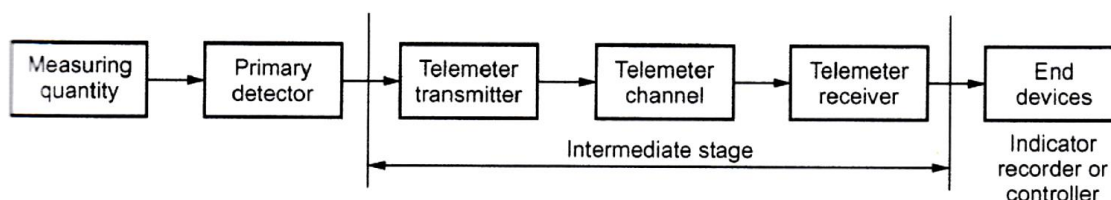

Fig.4.8 – Block diagram of general telemetering system
- ▶ The General telemetering system is as shown in Fig.4.8